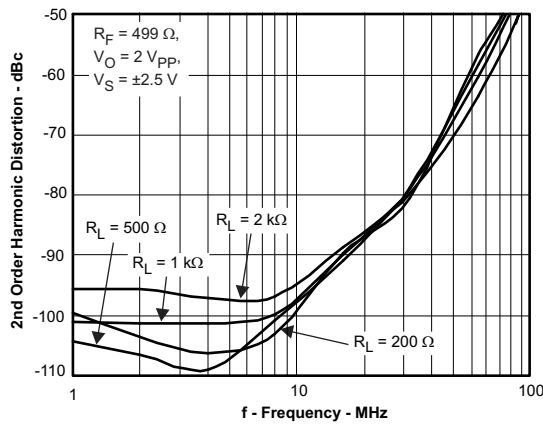

Figure 3.
| Harmonic Distortion (1) | HD2 vs Frequency, $V_O = 2\text{ V}_{PP}$       | <a href="#">Figure 3</a>  |